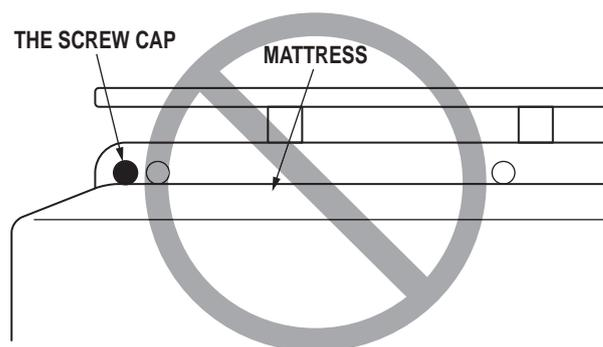

Figure 2-27. Recognize the screw caps
- Install a table board in order not to recognize the screw caps. (Figure 2-27)